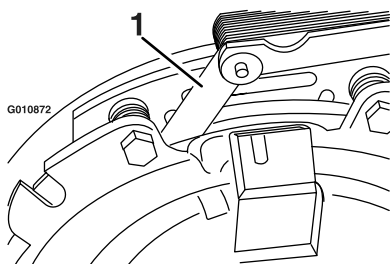
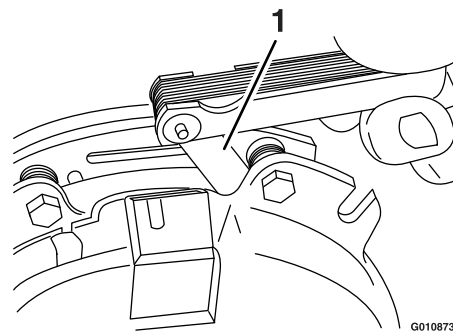

Figure 91
Figure 92
- E. Using a 0.25 mm (0.01 inch) thick feeler gauge, verify that a gap is present between the rotor and the armature face on both sides of the brake pole as shown in Figure 91 and Figure 92.